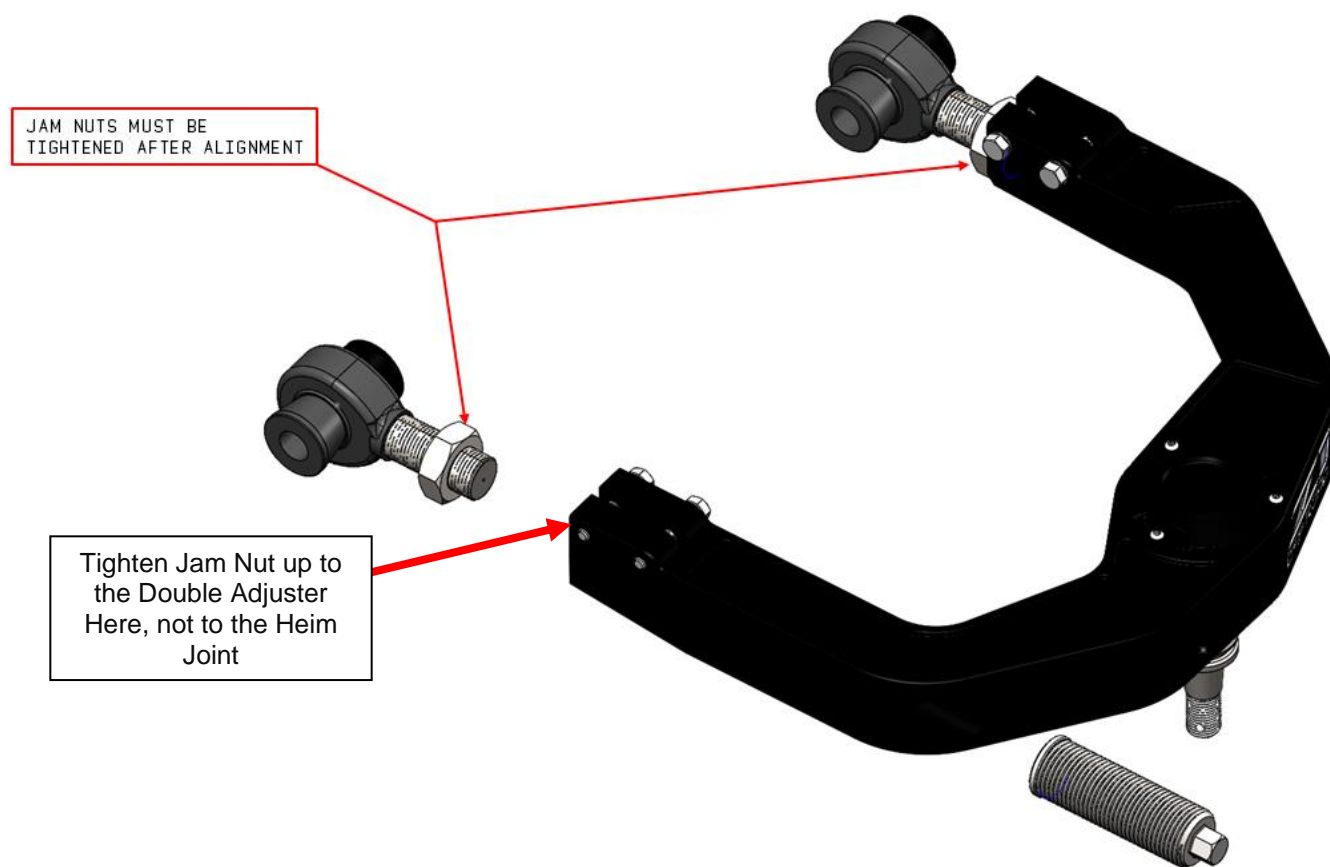

Figure 10
31. Once the Z1 Control Arms are adjusted to desired alignment, tighten the (2) two hex socket bolts, switching back and forth until both bolts are torqued to **10 ft-lbs**. Then, tighten the Jam Nuts on the Heim Joints against the Double Adjusters with an adjustable wrench or 28mm. Failure to tighten the Jam Nuts will result in the arms loosening and the alignment changing. *Figure 10.*